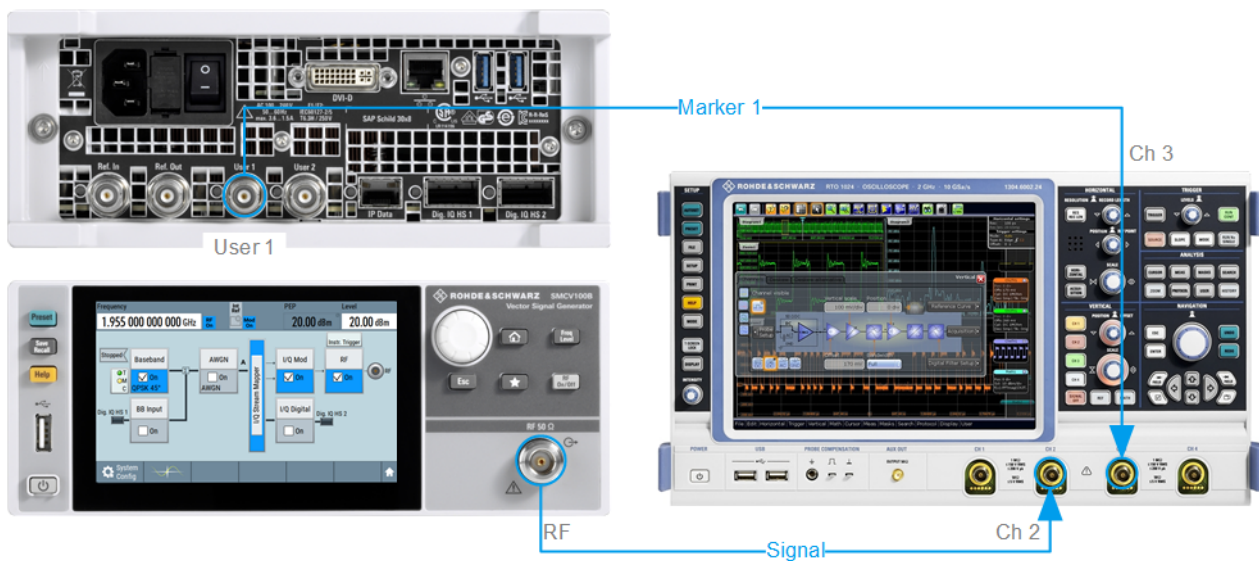

Figure 3-11: Simplified representation of a test setup for signal monitoring**
3. Use a suitable cable to connect the User 1 connector of the R&S SMCV100B to the monitoring instrument, for example an oscilloscope like R&S®RTO. See Figure 3-11.